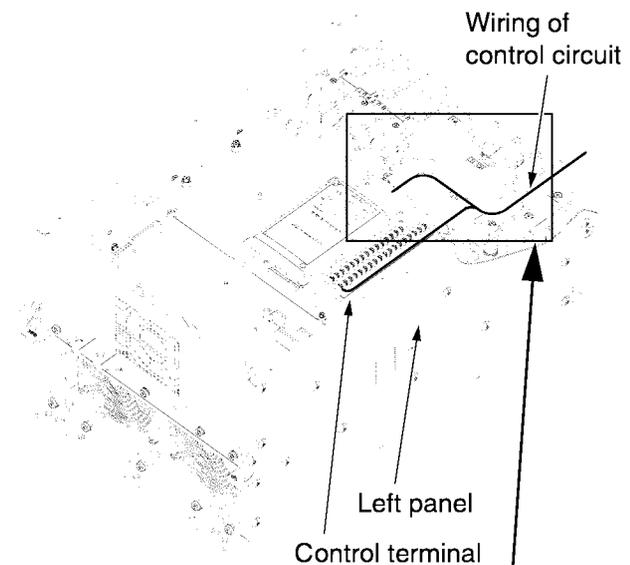

Figure 2-3-12 The wiring route of the control circuit
1. Pull out the control circuit wiring along the left panel as shown in Fig. 2-3-12.